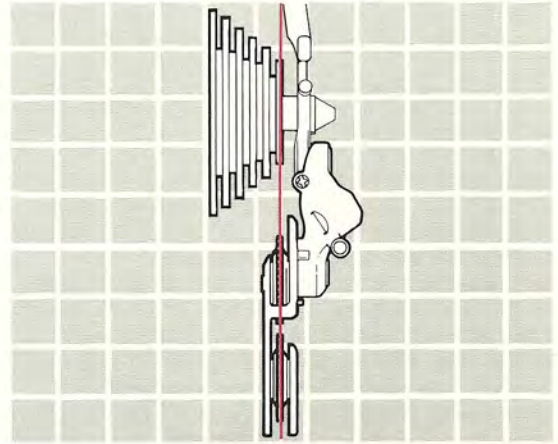

Figure 6. Rear derailleur alignment
**Rear Derailleur.** To make the high gear adjustment on the rear derailleur, first shift the chain onto the smallest rear sprocket and the smallest front chainring, then loosen the *cable clamp bolt* until the cable is free. Once this is done, stand behind the bicycle to see that the smallest rear sprocket, the chain, and the two derailleur pulleys are in line (see Figure 6).